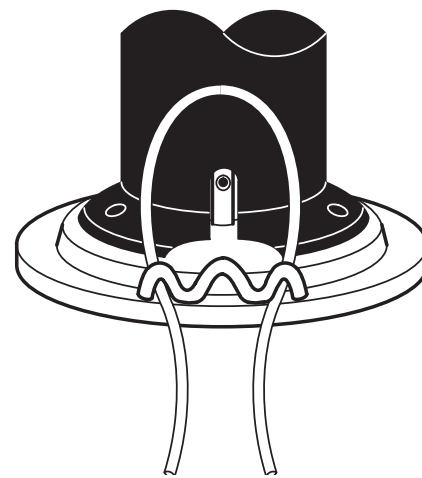

Figure 15
4. Thread the ends of the new trimmer line through the outside loops. (See Figure 15)